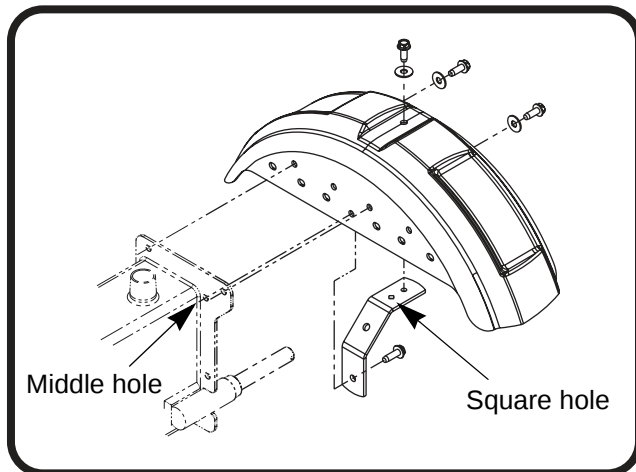

Figure 7.10
2. Line up the bottom hole of the support bracket with the hole in the fender and the middle hole across the top of the tank. See Figure 7.10.